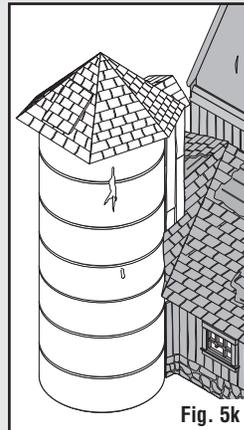

Fig. 5k
- Snap Silo Assembly into place on Implement Shed and apply glue onto tabs inside of Silo (Fig. 5k).